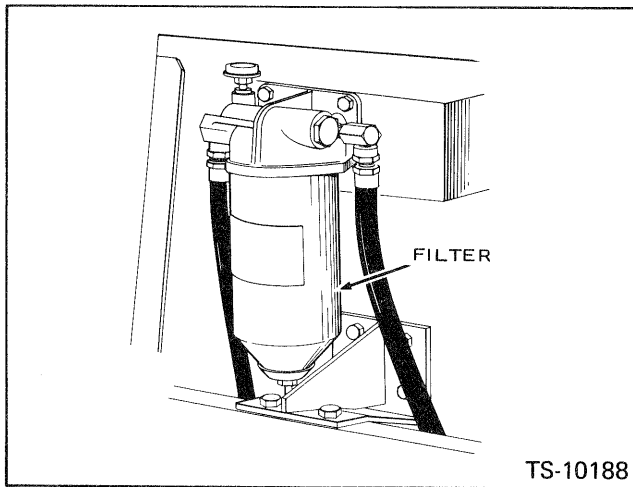

Fig. 10-2 Filter — Transmission and Torque Converter
4. Replace the element in the transmission and torque converter filter assembly. (See Fig. 10-2 for the position of the filter assembly.) Thor-